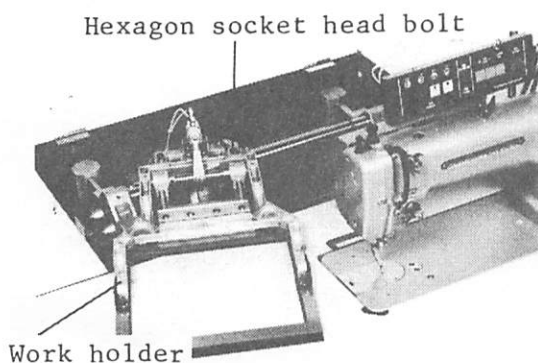

Fig. 11.5
11.4.3 Fully swing the work holder clockwise around the pivot screw (Fig. 11.5).